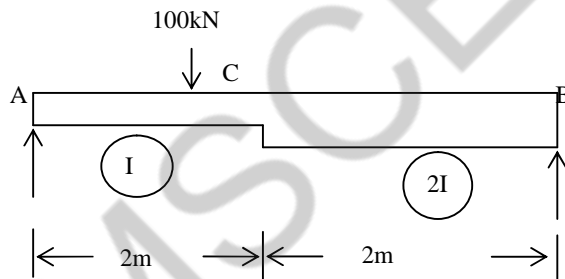

Fig. Q .14 (b)
7) Determine the slope at the two supports and deflection under the loads. Use conjugate beam method $E = 200 \text{ GN/m}^2$, I for right half is $2 \times 10^8 \text{ mm}^4$, I for left half is $1 \times 10^8 \text{ mm}^4$ the beam is given in fig. Q.14 (b). (May / June 2017)